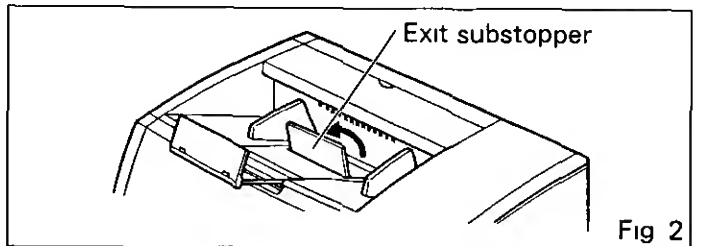

Fig 2
- When scanning narrow documents as shown below, pull up the exit substopper (See fig. 2)